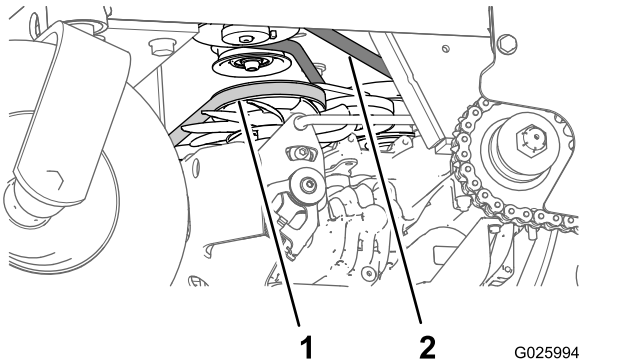

Figure 59
3. Check the auxiliary pump-drive belt condition and tension (Figure 59).
4. Check condition of the transmission-drive belt (Figure 59).